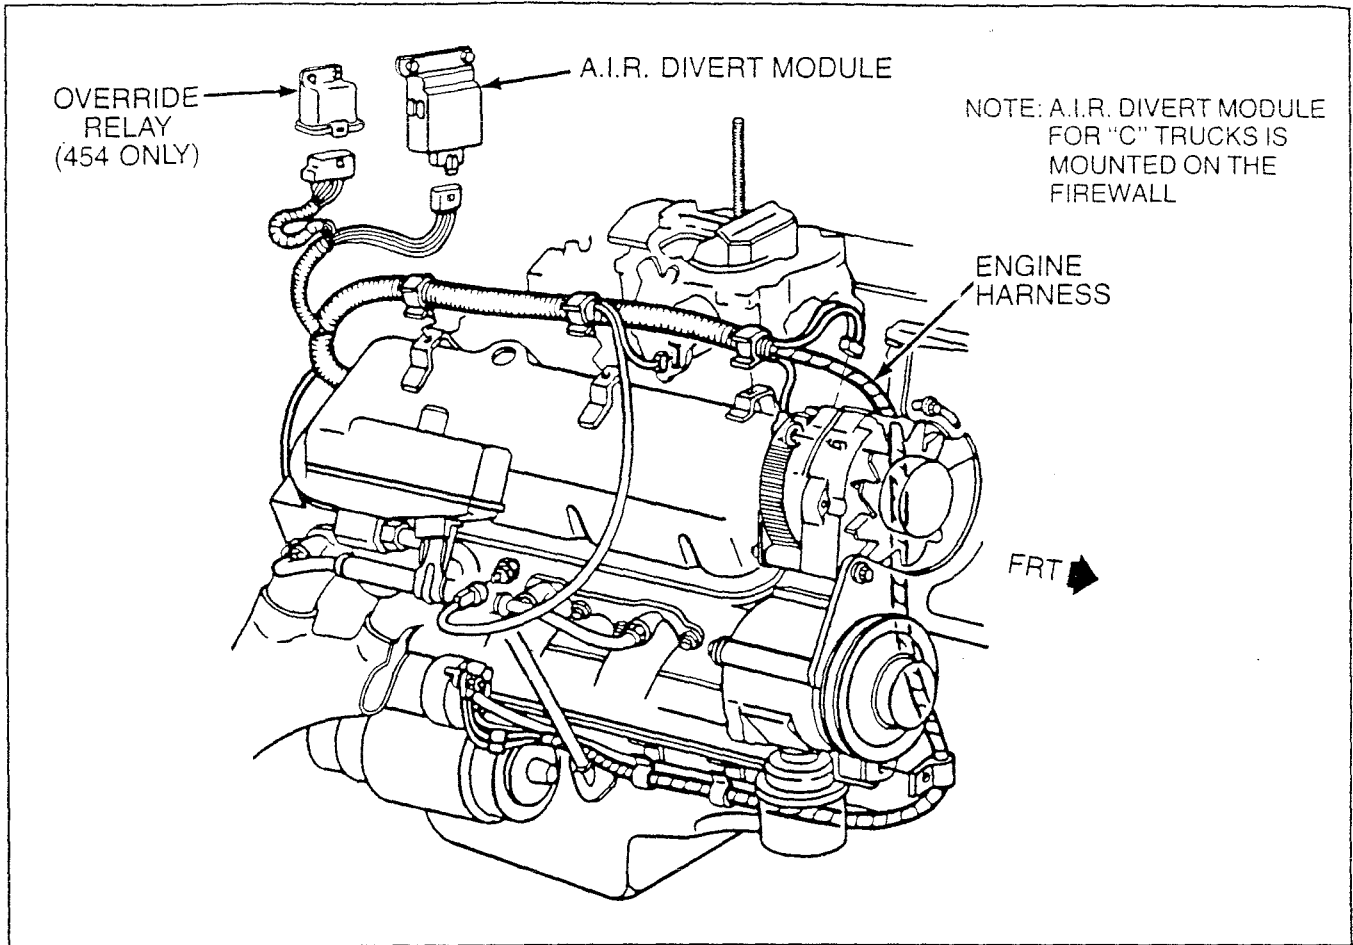

Figure A7-14-3 — H5D Override Relay
NOTE: 1985-86 models equipped with the LE8 (454) and H5D have an override relay. (See Figure A7-14-3.) This relay is necessary due to the lower cranking speed of the LE8 (454) engine. If the relay fails, the CEL will come on.